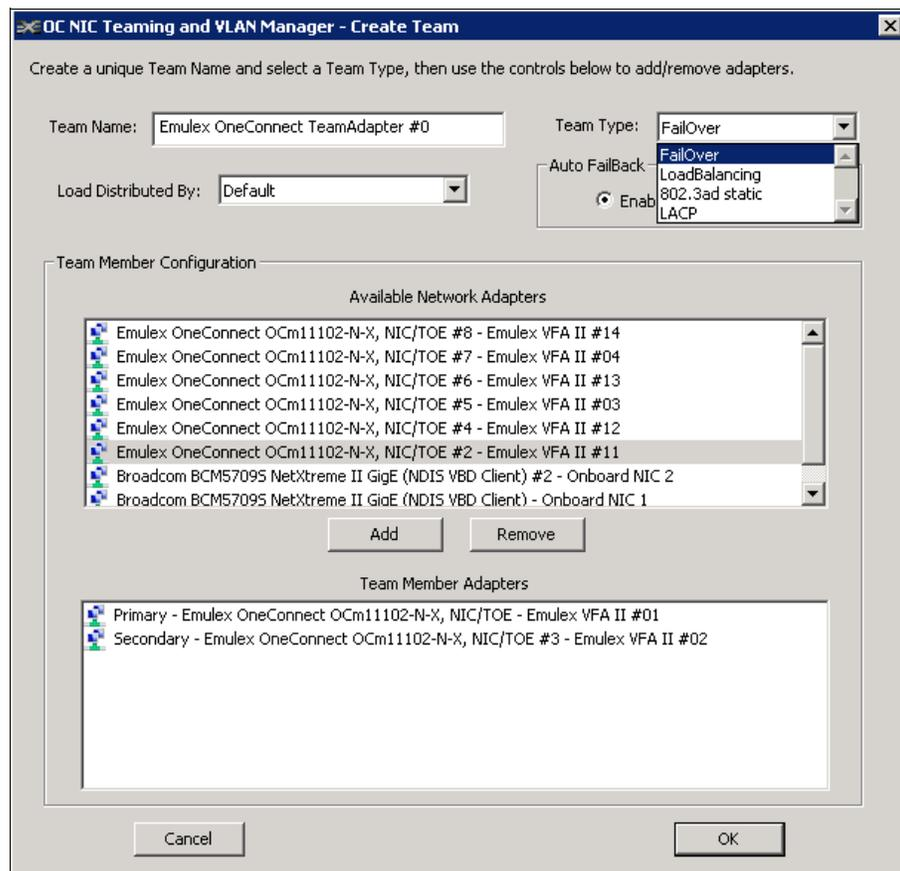

Figure 5-34 Configuring a new team
3. In the OC NIC Teaming and VLAN Manager – Create Team window (Figure 5-34 on page 95):